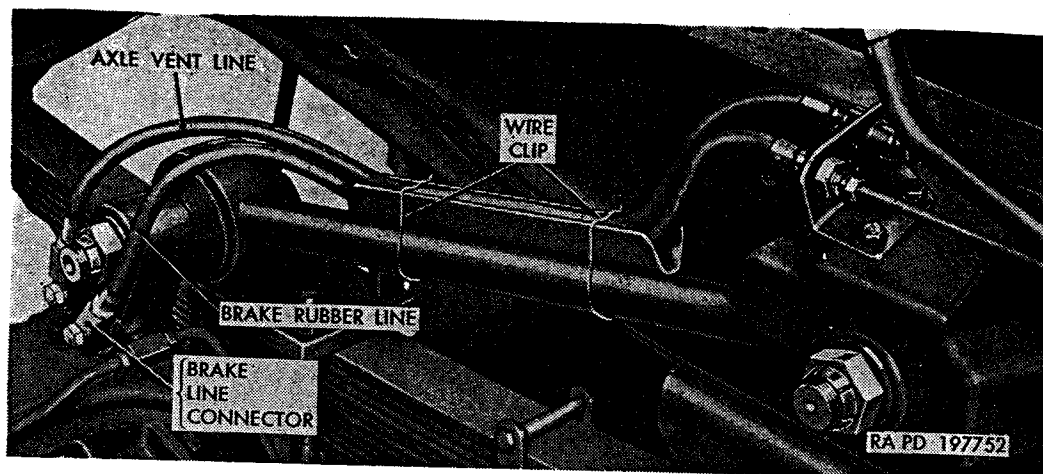

Figure 252. Frame to axle rubber line installed (front axle shown).
(2) *Frame to axle rubber line replacement* (fig. 252).